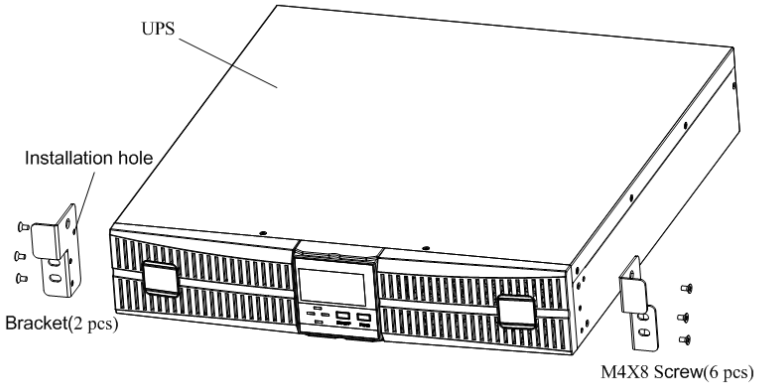

Fig.4-7 Installing brackets
1. Take out two brackets and six M4 × 10 screws from the accessories, and fix the brackets onto the UPS using the screws through installation hole, as shown in Fig.4-7.